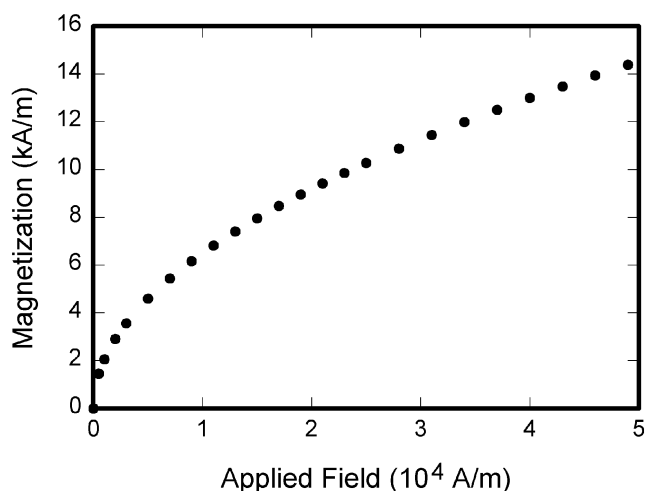

Fig. 1. Example of a figure caption.
a) Positioning Figures and Tables: Place figures and tables at the top and bottom of columns. Avoid placing them in the middle of columns. Large figures and tables may span across both columns. Figure captions should be below the figures; table heads should appear above the tables. Insert figures and tables after they are cited in the text. Use the abbreviation "Fig. 1", even at the beginning of a sentence.